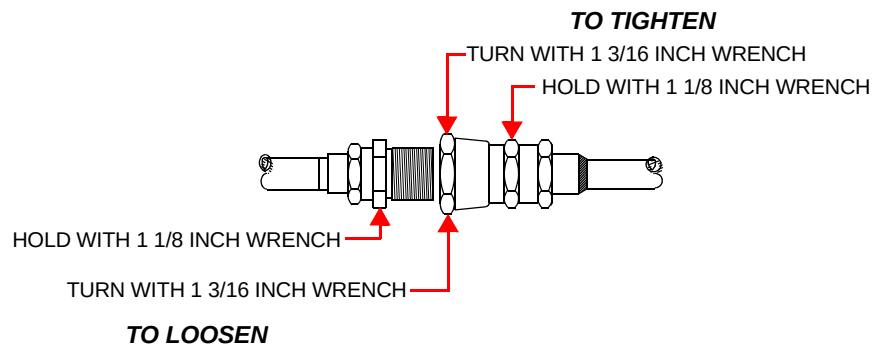
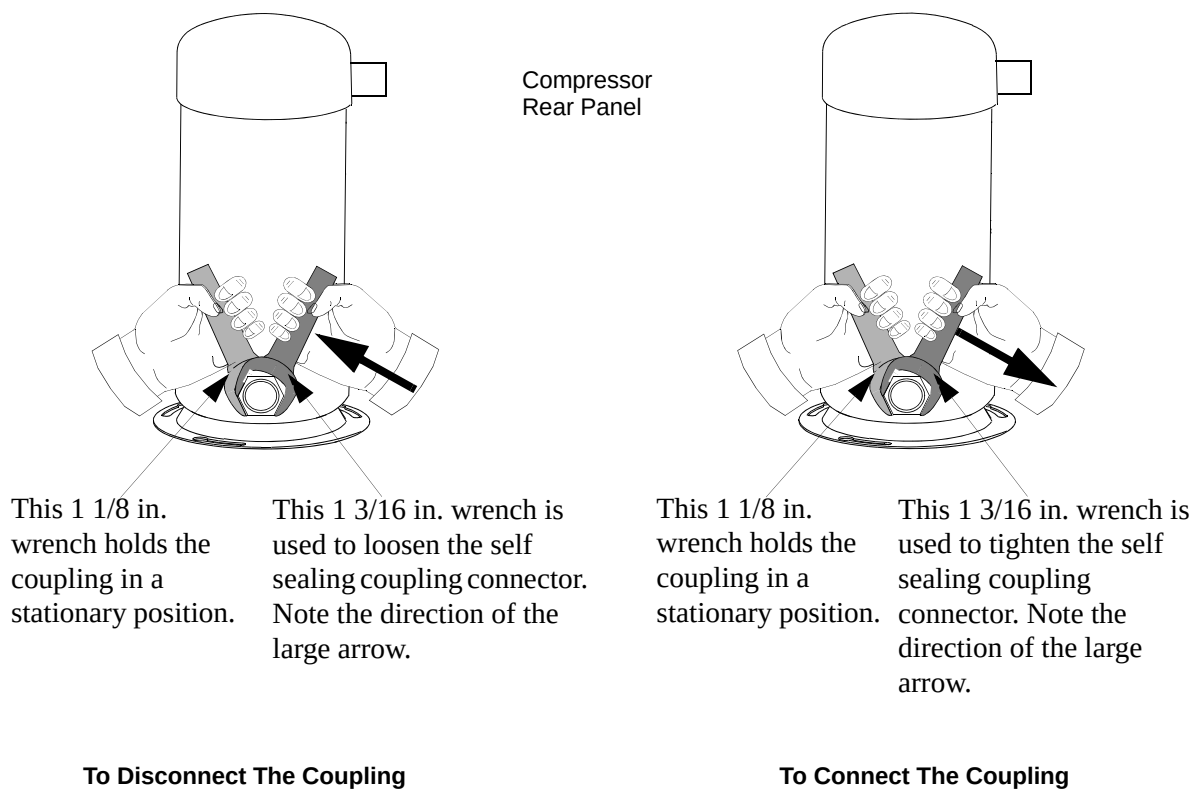

Figure 5-1: Adjusting the Self-Sealing Connectors
Figure 5-2: Disconnecting/Connecting the Adsorber Self-Sealing Coupling
6. Unscrew the two self-sealing coupling halves quickly to minimize gas leakage as shown in Figure 5-2 on page 5-3.
7. Disconnect the adsorber-inlet self-sealing coupling as shown in Figure 5-2 on page 5-3.
10. Remove the adsorber from the compressor as shown in Figure 5-2 on page 5-3.
2. Connect the adsorber to the compressor internal piping. Refer to Figure 5-2 on page 5-3.
CAUTION Equipment Damage To avoid damaging equipment, ensure you hold the left coupling nut while tightening the right coupling nut, as shown in Figure 5-2 on page 5-3 and Figure 5-1 on page 5-3.
- b. Make the first turns by hand and then firmly seal the connection using the two wrenches until the fittings “bottom.” Refer to Figure 5-2 on page 5-3 and Figure 5-1 on page 5-3, for proper coupling of the self-sealing connection